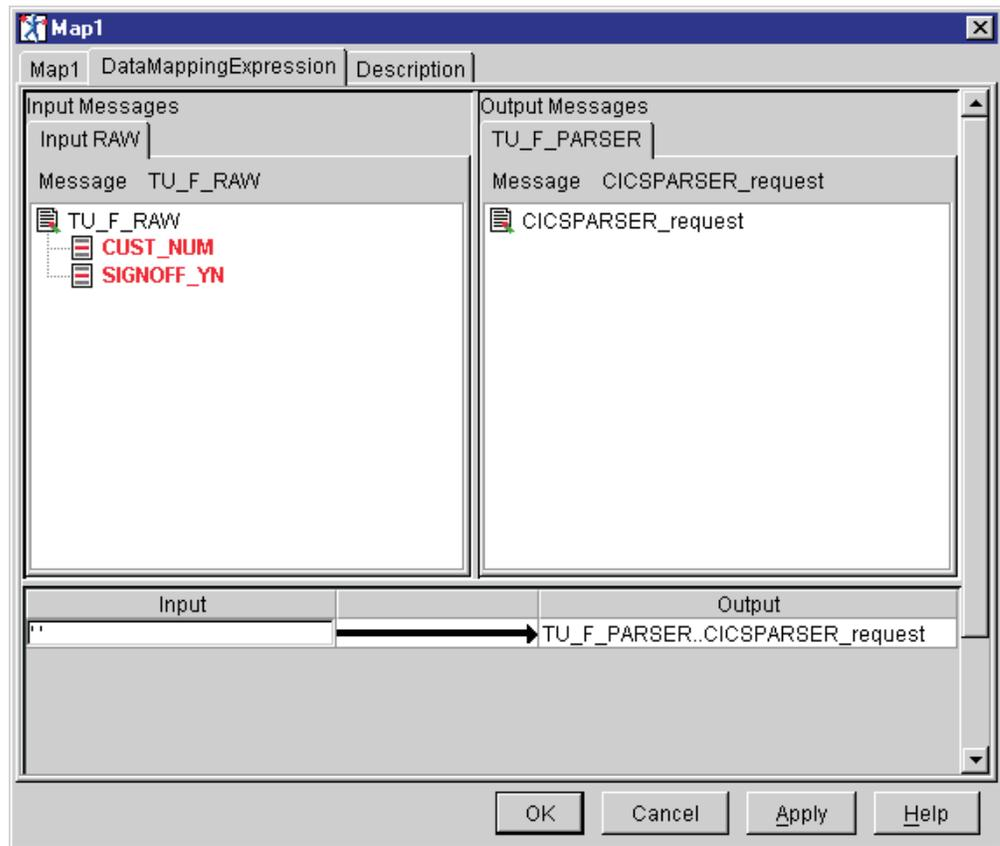

Figure 108. Mapping for Map1 node
- 1) Perform the mapping for the Map1 node as listed in Table 47 on page 145 and shown in Figure 108 on page 145. This map sets the CICSPARSER request to a blank character. The blank character is needed because there must be some character mapped in a mapper node.